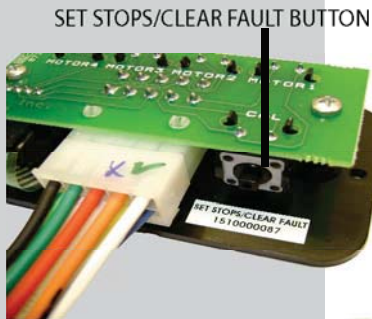

Figure 2
- MAJOR faults must be cleared by pushing and releasing the Set Stops/Clear Faults button located on the back of the wall touchpad (Fig 2). This is done to alert the user that there is a major problem with the system and to prevent damage to the slideout room.
Manual mode permits the operator to individually move the two room arms by pressing the IN and OUT buttons on the touch pad. **This mode can be used only if there is not a motor failure.** To override the sensor and enter the Manual Mode, press and hold the Set Stops/Clear Fault Button (see figure 2) for approximately 5 seconds until the two upper left-hand red LEDs (Park Brake and Low Voltage) begin to flash.